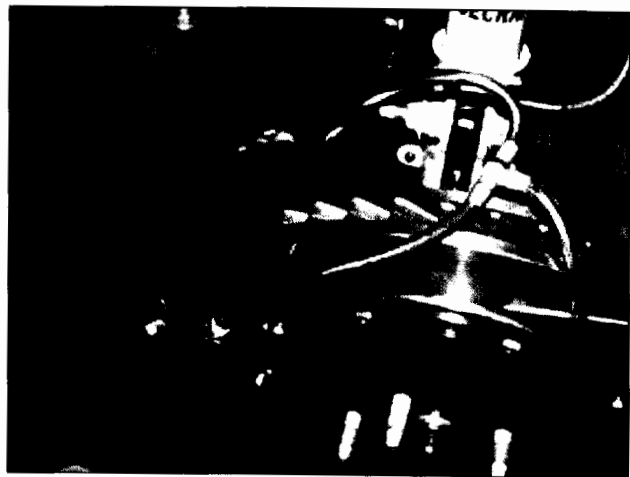

Figure 8
16. Bleed the brake system (see Figure 8).